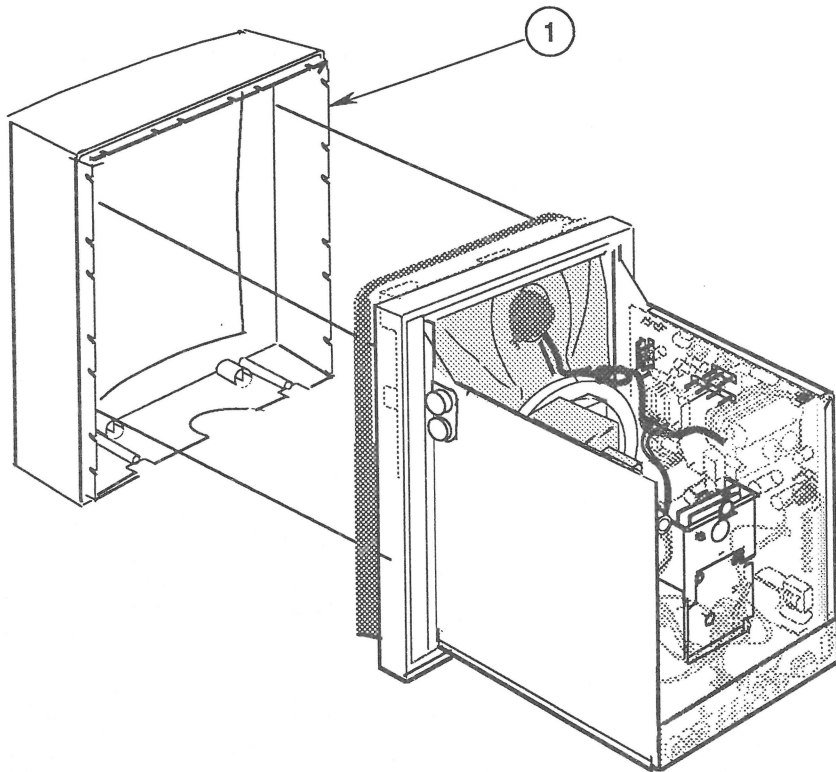

FIGURE 45
7. Slightly lift the chassis, and pull off the bezel (Figure 45, #1). It is easiest to pull off the top of the bezel first.
1. Slightly lift the monitor chassis, and slide the bezel (Figure 45, #1) over the chassis. It is easiest to slide the top of the bezel onto the chassis, and then slide on the bottom.